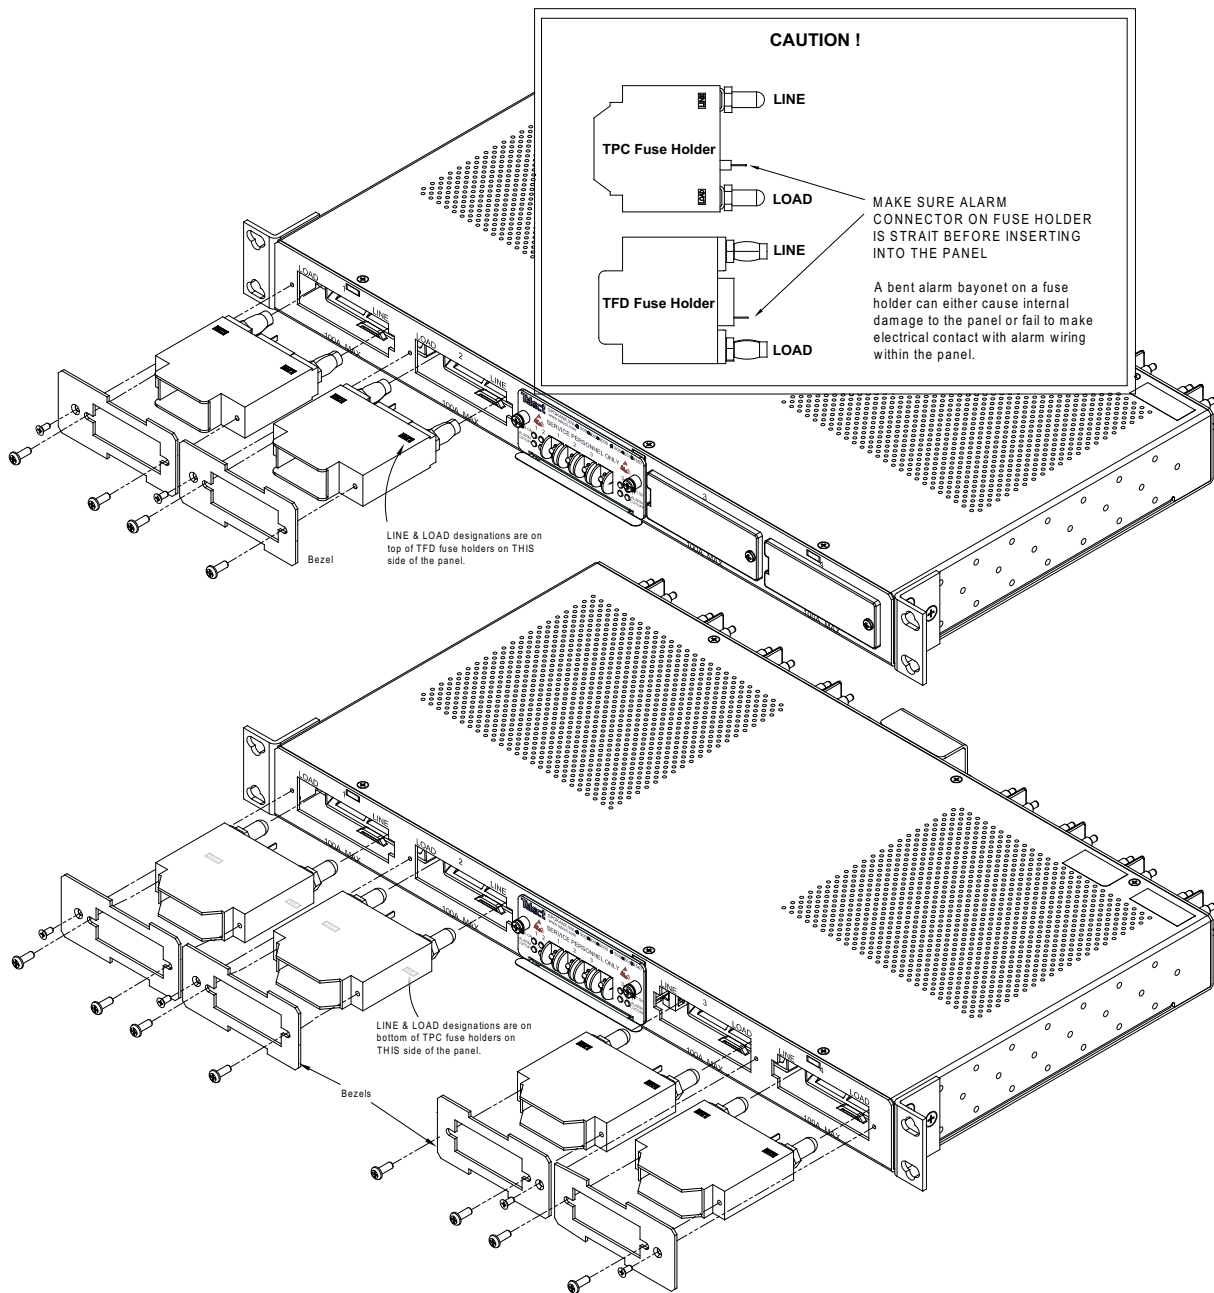

Figure 3 - Installing TPC & TFD Fuse Holders
2. As shown in Figure 3, install the TPC or TFD fuse holders and bezel(s):